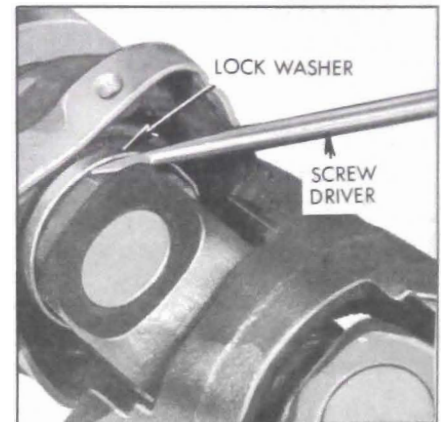

Figure 6-48—Disengaging Lock Washer
1. Pry up rim of lock washer to disengage flats on the bearing locknut. See Figure 6-48. Loosen locknut until free of threads and slide locknut and seal against the constant velocity joint.